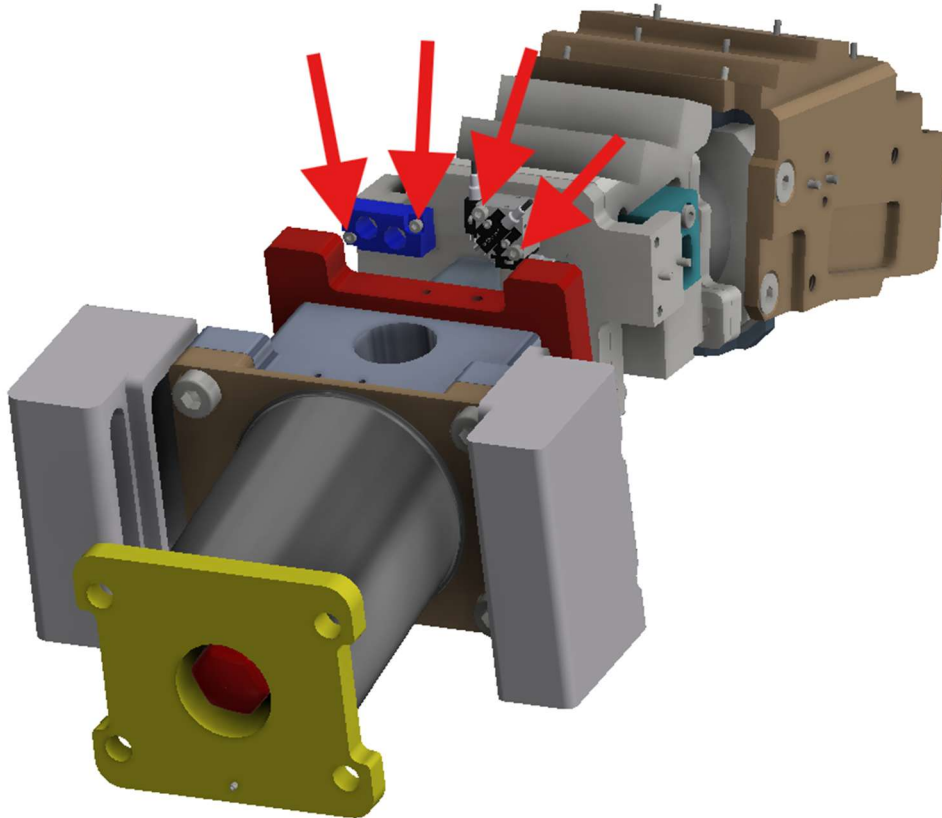

Figure 5-35. Remove the T6 tilt sensor (SA572-S44) and Mid-Spine Accelerometer Block (474-3066) from the underside of the Spinebox Interface Plate (474-3072)
- 5.2.31 Remove the Mid-Spine Accelerometer Block (474-3066) from the underside of the Spinebox Interface Plate (474-3072) by removing two M2.5 X 0.45 X 14 LG. SHCS (Figure 5-35).
- 5.2.32 Remove the T6 tilt sensor (SA572-S44) from the underside of the Spinebox Interface Plate (474-3072) by removing two M2 X 0.4 X 10 LG. SHCS (Figure 5-35).